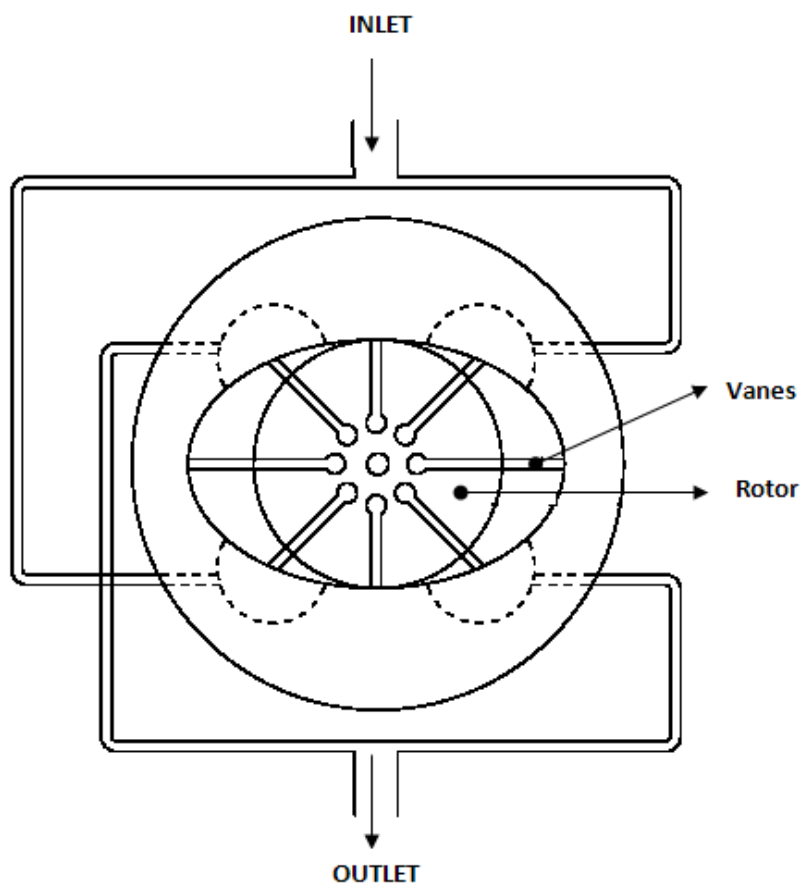

Fig.3.7 - Layout of general hydraulic system
- ▶ Figure 3.7 shows the schematic of a balanced vane pump.